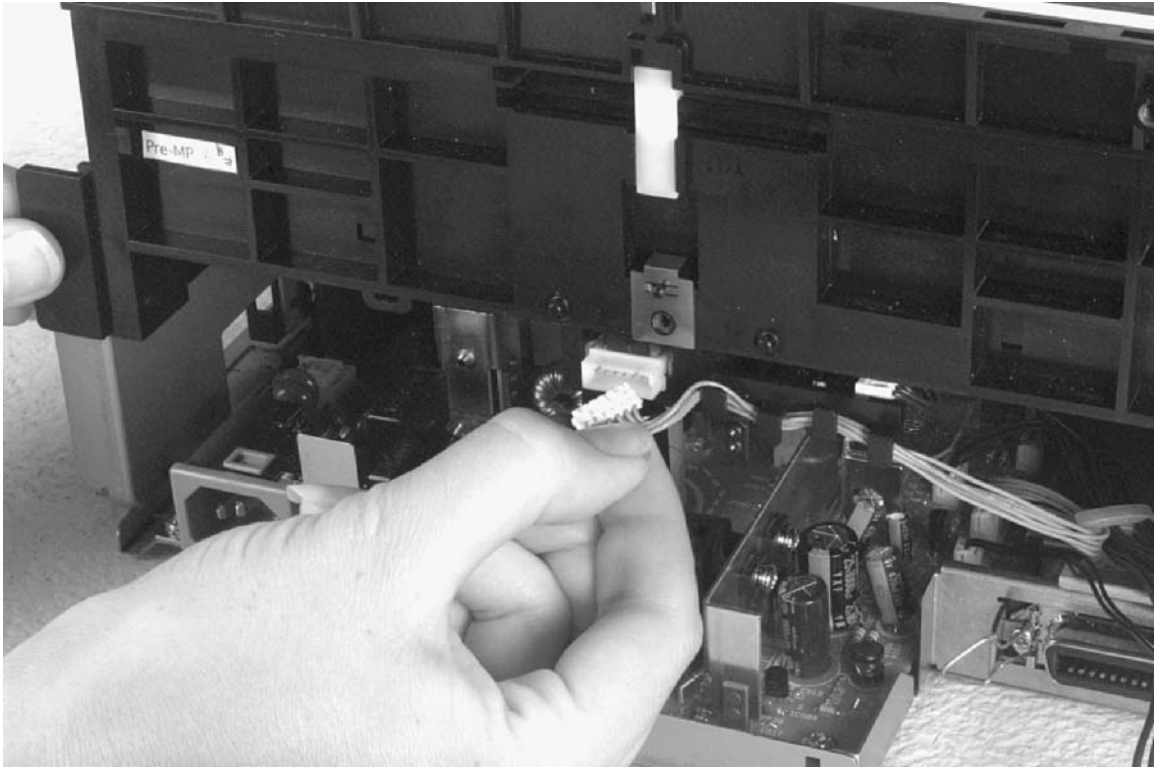

Figure 6-29 Paper Feed Frame removal (4 of 4)
- 7 Release the sensor unit connector (Figure 6-29).
- 4 Remove the back sheet metal plate and disconnect the PS202/PS204 connector (Figure 6-29).